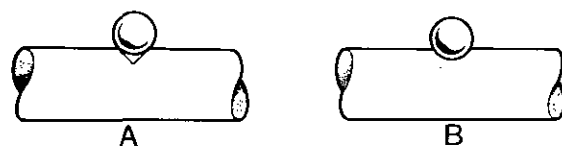

FIGURE 58. SELECTOR ROD AND DETENT BALL
4. Check that there is a clearance between the ball and the bottom of the groove. See Figure 58.